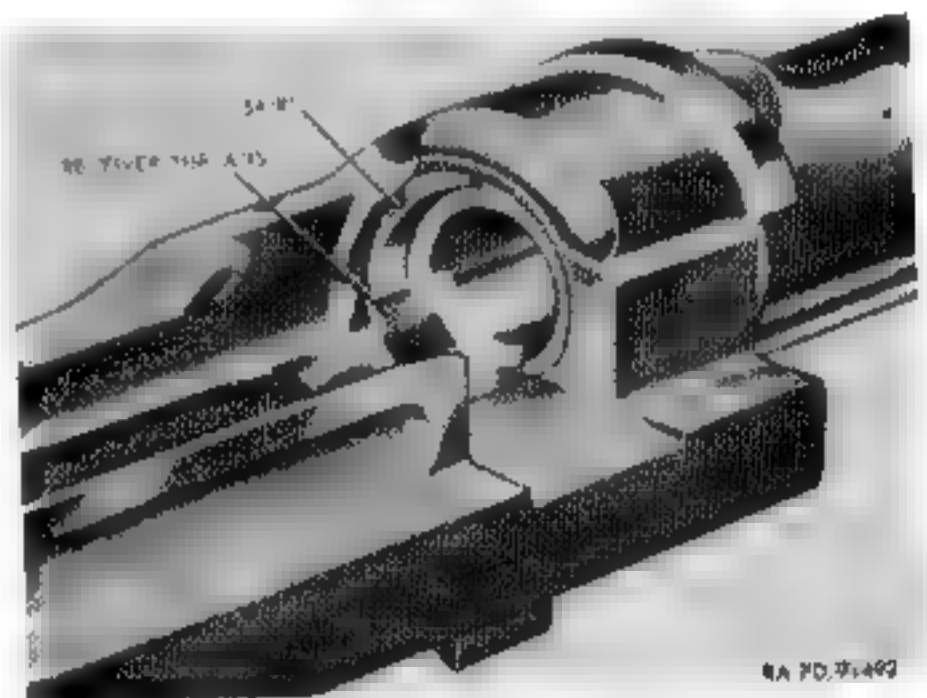

Figure 80. Breech and barrel showing new type skrt.
- (h) Barrels of current manufacture have been modified by the elimination of a portion of the skirt on the chamber end. In barrels of early manufacture, this skirt was extended around approximately two-thirds of the chamber end of the barrel and was thickened somewhat in its center section. As the thin section of the skirt served no useful purpose, it was eliminated and only the thickened portion remained. When looking into the breech end of the gun only the thickened portion remained. When looking into the breech end of the gun ahead of the bullet ramp, the thread of the receiver can be seen (Fig. 80). This is a normal condition.